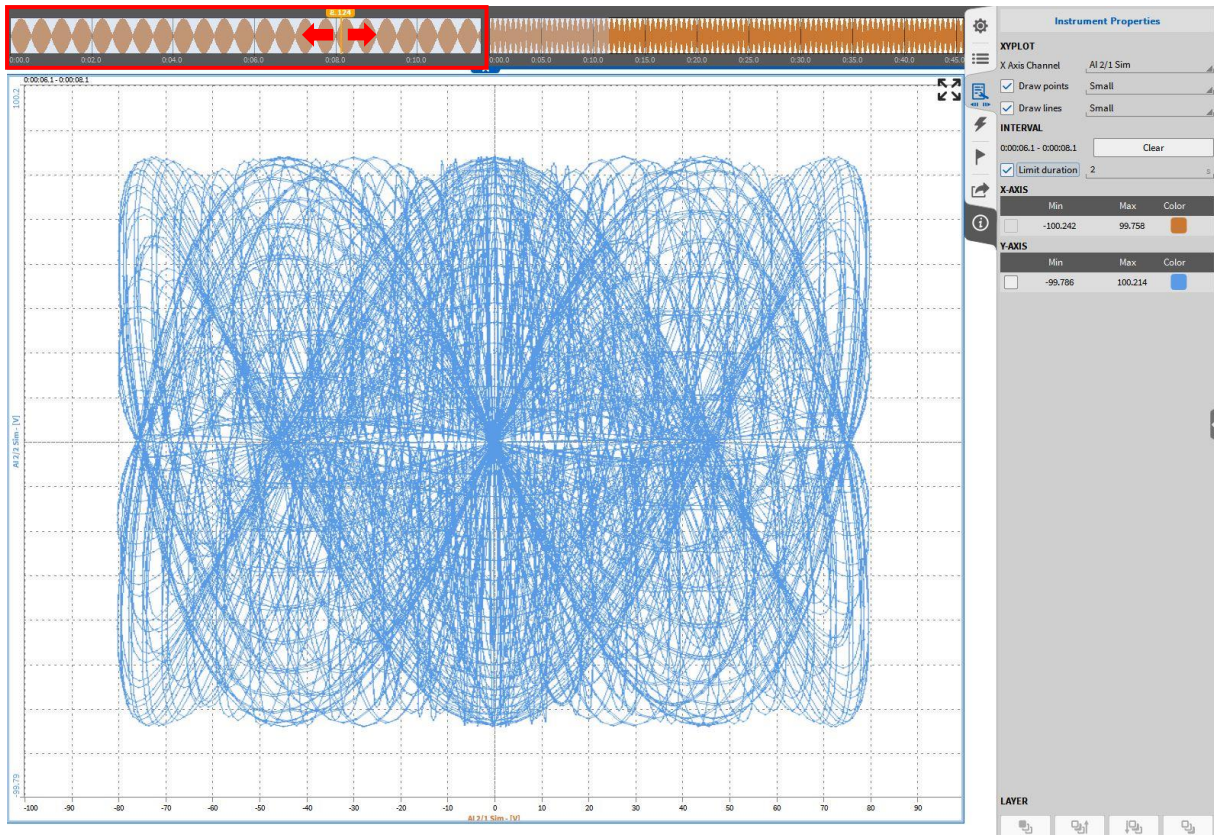

Figure 6-66: XY-Plot - Data scrolling
- In the *PLAY* mode and *LIVE* mode (with frozen screen) the user can scroll through the measurement data by moving the orange time marker in the Overview bar (see Figure 6-66) or in a Recorder if one is displayed. The Interval settings in the Instrument Properties are respected during this operation.